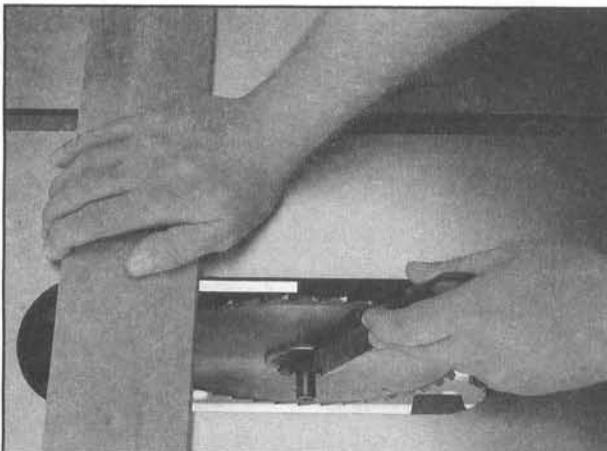

Figure 21.
3. Use the arbor wrench provided with the saw to tighten the arbor nut. Wedge a block of wood in the teeth of the blade to keep it from turning when tightening the nut. **Figure 21.**